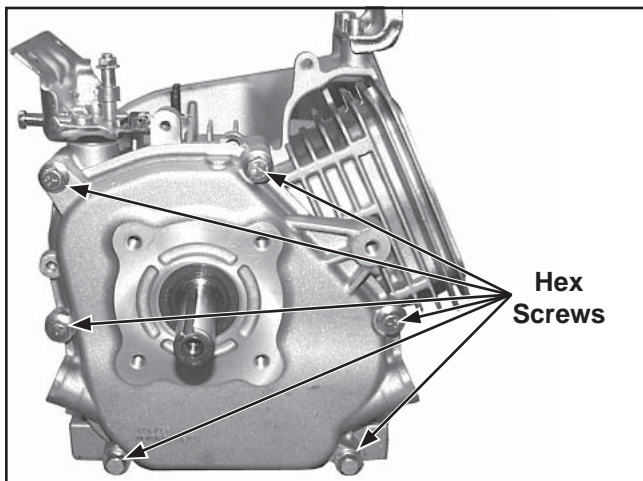

Figure 9-44. CH270 Closure Plate Mounting Screws.
1. Remove the hex flange screws securing the closure plate to the crankcase. See Figures 9-44 and 9-45.